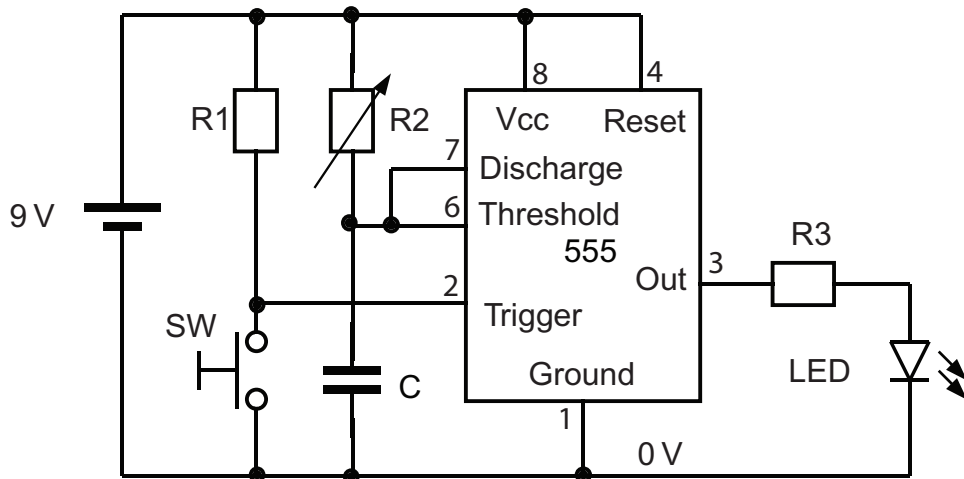

Fig. 10(b)
- (i) State if the circuit shown in **Fig. 10(b)** is an example of an open loop or closed loop system and briefly justify your choice. [2]
- (ii) Describe the operation of the circuit shown in **Fig. 10(b)** making reference to the components that control the timing. [4]